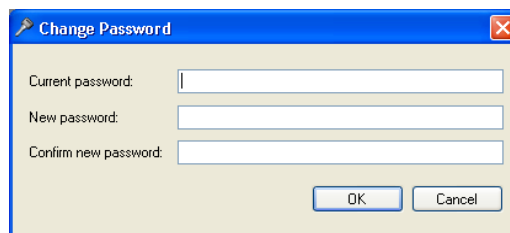

Fig.2
- The 'Change Password' - see fig.2 - is the management of the password used to get access to the client software. Enter your current password in the top field, and a new password in the mid and bottom fields. The password must be min. 2 characters, max 20 characters, and must contain min. 1 capital and min. 1 lower-case letter.